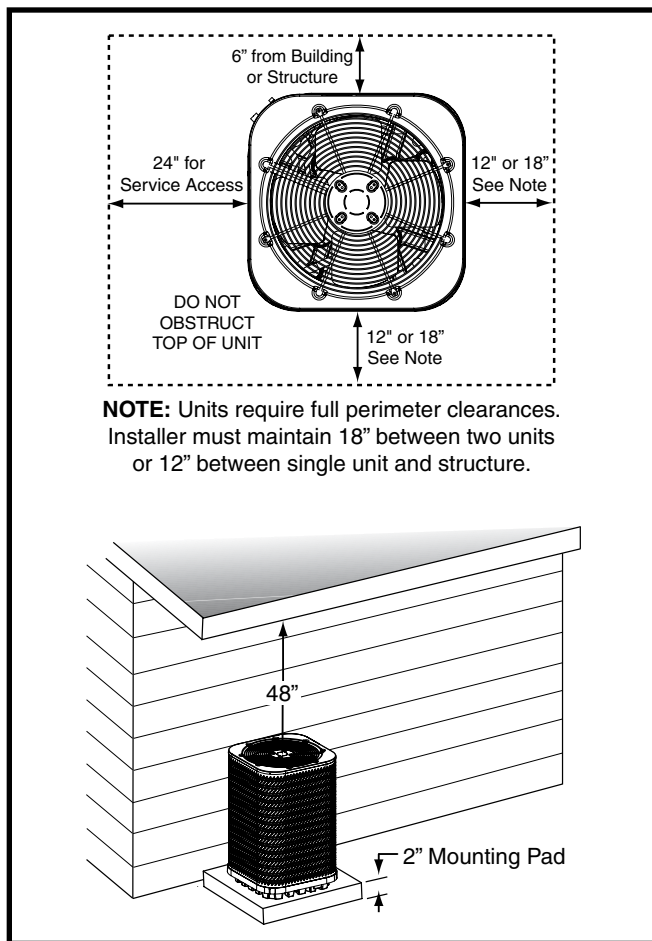

Figure 1. Clearance Requirements
- Sufficient clearance for unobstructed airflow through the outdoor coil must be maintained in order to achieve rated performance. See Figure 1 for minimum clearances to obstructions.
- Overhead obstructions (Figure 1, page 3), poorly ventilated areas, and areas subject to accumulation of debris should be avoided.
- Clearances must be in accordance with those shown in Figure 1.
- A suitable mounting pad (Figure 1) must be provided and separate from the building foundation. The pad must be level and strong enough to support the weight of the unit. The slab height must be a minimum of 2" (5 cm) above grade and with adequate drainage.